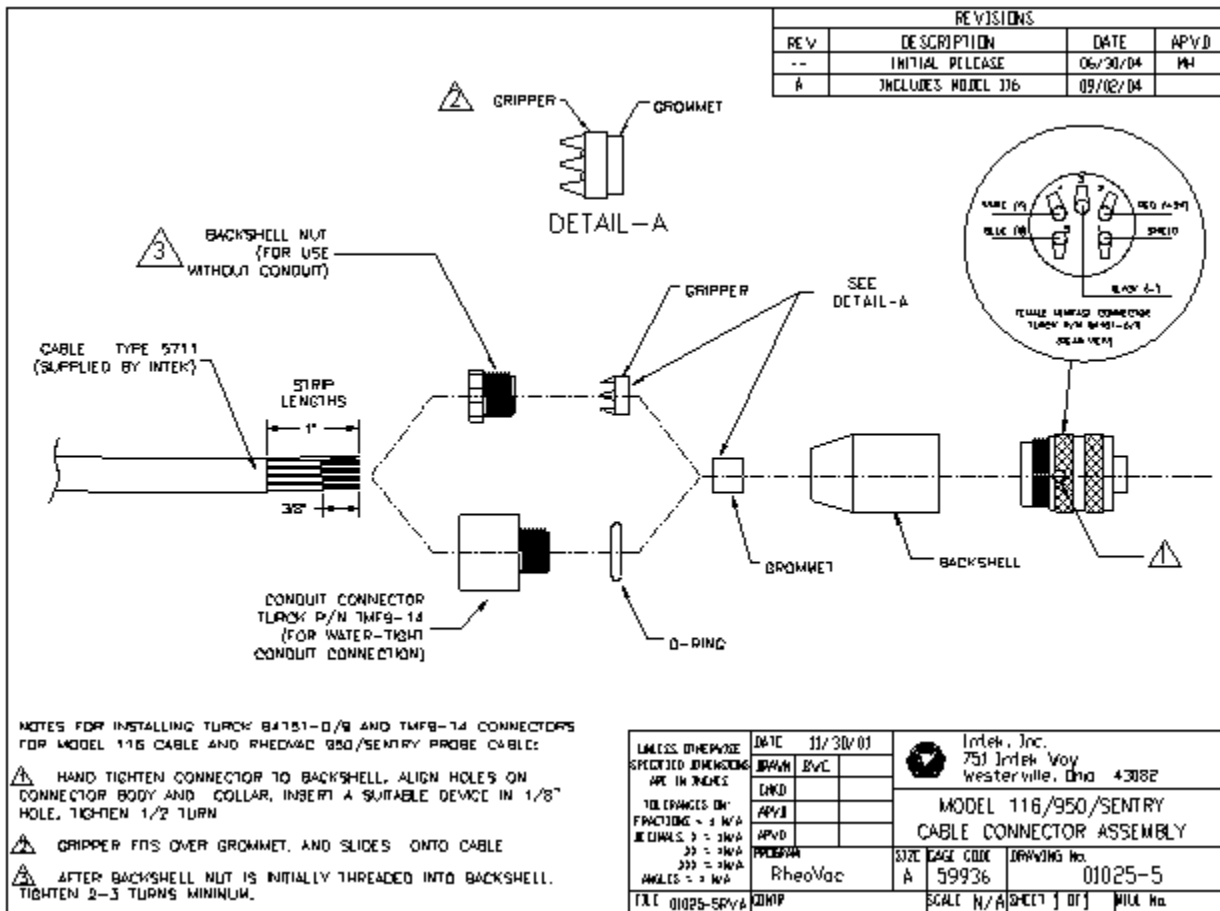

Figure 10 Probe Connector Assembly
D. FTP Probe: **CAUTION—Do not cross thread connection.** The FTP probe is supplied with a convenient plug-in connector. The male side of the connector comes installed in the probe junction box. The female side is usually shipped loose and must be installed onto the supplied DeviceNet type 5711 cable once it is run from the Distribution Box to the probe. The wiring detail for the female plug-in connector (Turck p/n B4151-0/9) can be seen in Figure 10. These connectors will use either the “backshell nut” or “conduit connector” depending on whether the cable is installed in a liquid-tight conduit. When installing without conduit, use the backshell nut; when using liquid-tight conduit, use the conduit connector with o-ring.
4. Insert the wires, in accordance with color-coding shown (see Figure 10, insert).